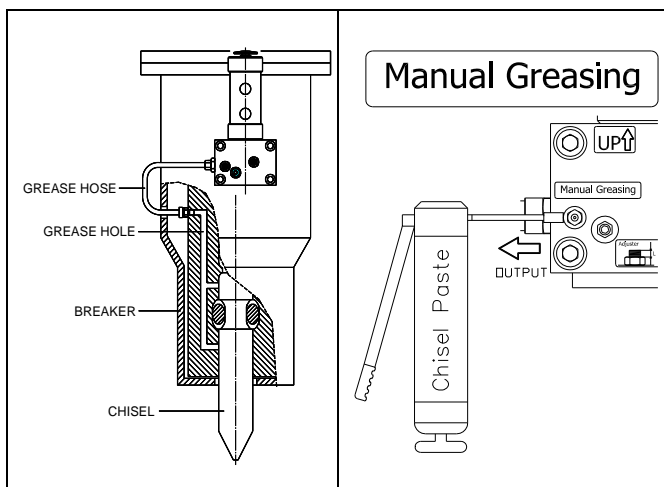
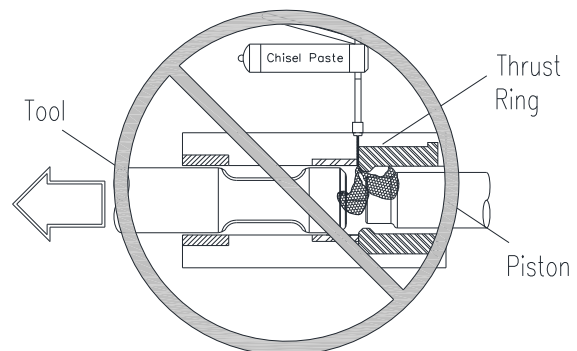

Fig. 5-11 Pre-Fill Hose & Top-Down Passages
Fig. 5-17 Risk of Seal Damage – Tool Unseated
1. Figure 5-11. Pre-fill all lines and passages leading to the chisel
If the BreakerLube is inoperable, grease the tool manually using a conventional hand or power assisted grease gun. Grease points are located on the BreakerLube (Figure 5-11) and at the front head Fig. 5-17.
Locate the grease nipple identified as Manual Greasing on the BreakerLube (Fig. 5-11).